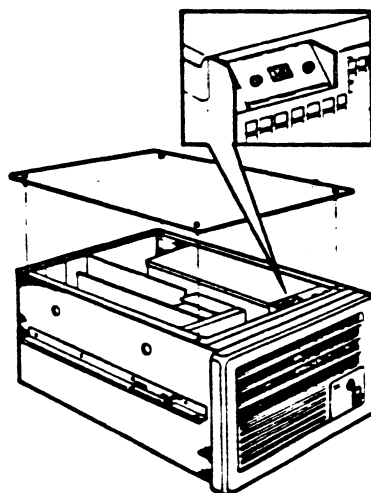

FIGURE 2-8 BOX POWER SUPPLY INPUT SELECT SWITCH
2. Remove the four top cover screws and lift the cover off. (See Figure 2-8.)
3. Set the power supply input AC voltage switch, located on the power supply front, to match the AC power outlet voltage. (See Figure 2-8.)